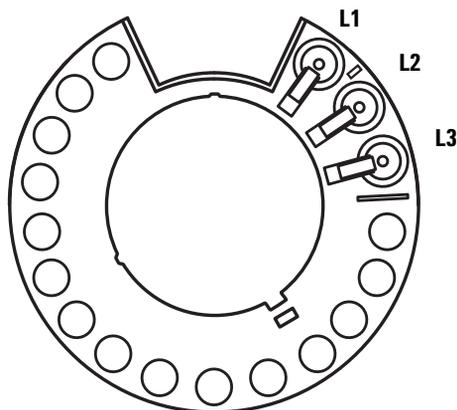

Figure 25 Transfer turret positions L1, L2, L3 (top view)
- 2 Remove any vials from transfer turret positions L1, L2, and L3 in both towers (Figure 25).